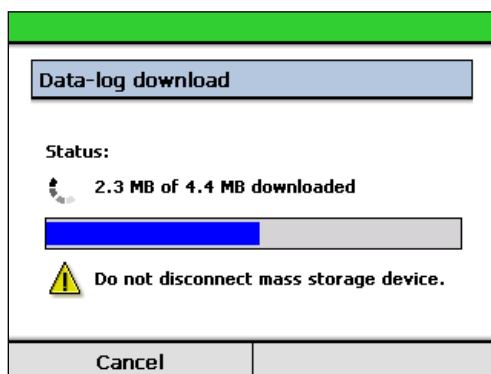

Figure 36 *Data-Log Download in Progress*
- 3] To begin the download, press the 'Start download' context button. The progress of the download will be shown on screen as per Figure 36. The download may take several minutes depending on the number of files currently stored.